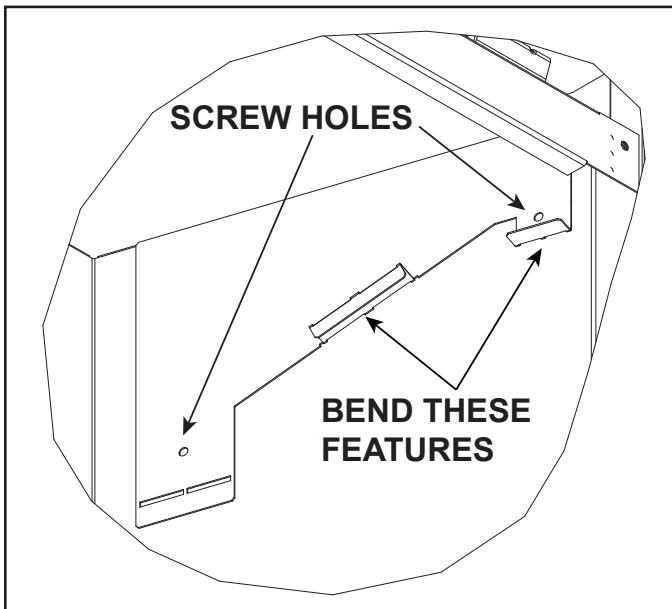
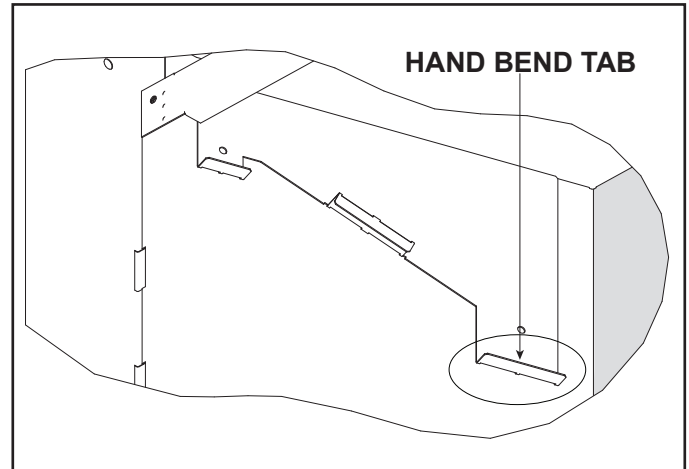

Figure 8 Bend Upper Glass Brackets
Figure 9 Upper Glass Brackets Installed (Left Upper Bracket Shown)
9. Locate the two upper glass brackets that are shipped flat. Bend the "Right" bracket as shown in Figure 8. Bend the "Left" bracket shown in Figure 9. The rear hand bend feature, circled in Figure 9, is left flat until step 12.
10. Install right upper glass bracket by pushing the bracket "up" to the firebox top and "out" to the front face of the firebox. The front edge of the bracket should be tight to the firebox face and the top edge of the bracket should be tight to the firebox top. Install the bracket by inserting the two self-tapping screws through the bracket into the firebox. See Figure 8. Repeat step 10 for left upper glass bracket installation.
12. With one hand on the rear glass panel, bend "up" one hand bend tab on the upper glass bracket to approximately 90 degrees. See Figure 9. Once the hand bend tab is properly bent, the glass panel will not tip forward. Bend "up" the hand bend tab on the opposing bracket. The rear glass panel is now installed. This panel will be held in place by the side panels once they are installed.